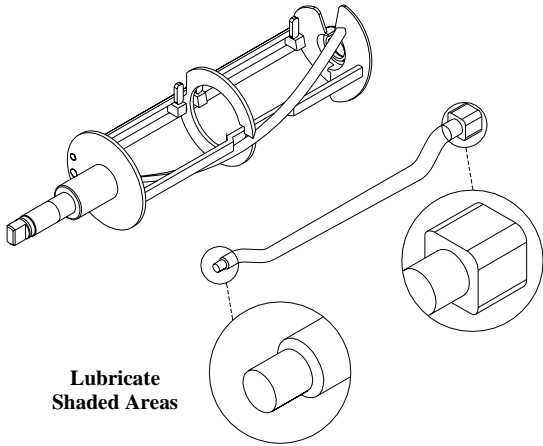
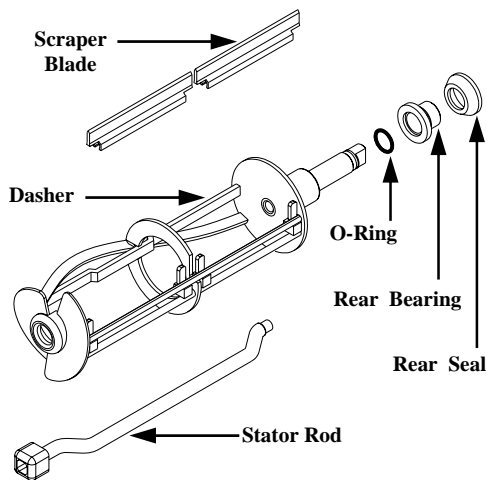

Fig. 10
Fig. 11
a. Apply a generous amount of lubricant to the shoulder of the dasher and the area of the shaft where the white plastic portion of the assembled rear seal contacts the shaft (Fig. 10). This is easily performed by running a 1/4 inch bead of lubricant around the shoulder of the dasher.
b. Lubricate the two areas of the stator rod (Fig. 10) and slide the stator rod into the dasher (Fig. 11). Ensure that the end of the stator rod is inserted into the hole at the rear of the dasher.
d. Install the assembled rear seal so that the red rubber portion is facing the rear wall of the barrel and the white plastic bearing will rest against the dasher - see Fig. 11.